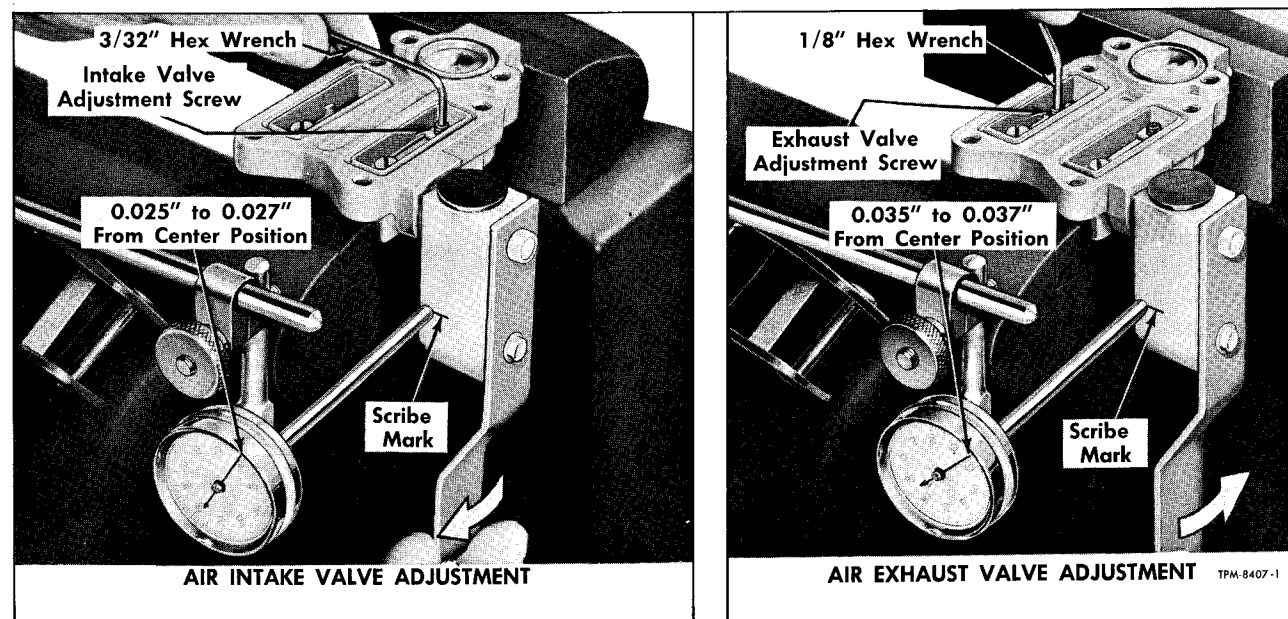

Figure 8—Method of Adjusting Air Valve Lever Gaps
to open. Listen for escaping air. Note reading on dial at this point. Reading should be 0.025" to 0.027" from lever center position. On early front valves, using a 3/32" hex wrench, adjust screw on intake valve lever (left view, fig. 8) until correct setting is obtained. On rear valves, and late model front valves, bend lever to correct setting.
5. Return overtravel lever to center position. Slowly move lever to exhaust side and at same time note the vacuum gauge reading. When vacuum just begins to fall off, the exhaust valve has opened. Valve should open when overtravel lever is moved 0.035" to 0.037" from center position. On early model front valves, using a 1/8-inch hex wrench, adjust exhaust valve lever adjustment screw as shown in right view, figure 8 as required. On rear valves, and late model front valves, bend lever to correct setting.
b. On early model front valves using a 3/32" hex wrench adjust screw on intake valve lever (left view, fig. 8) until specified adjustment is obtained. On rear valves, and late model front valves, bend lever to correct setting.